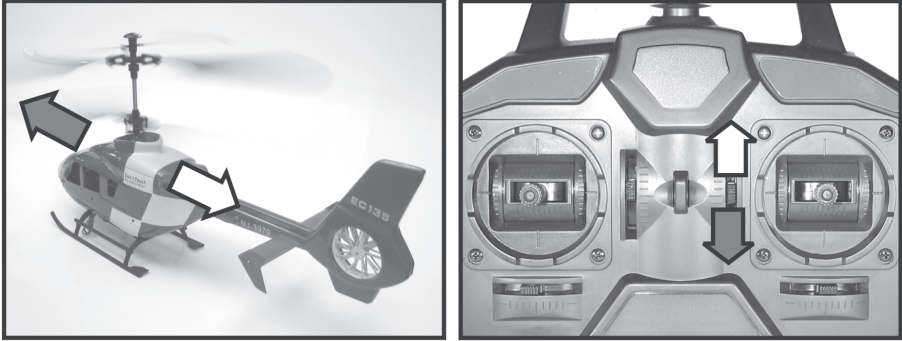

Figure 17
If the helicopter wants to drift forwards (see figure 17), reduce the speed and slide the trim slider for the roll function (see figure 1, item 2) gradually to the back.